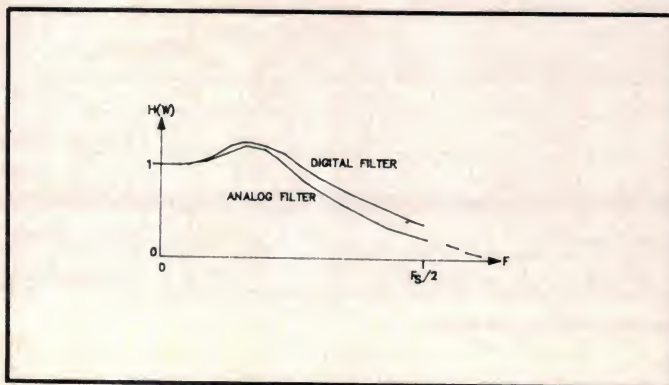

Fig.5: amplitude distortion caused by the impulse invariant transform.
- (1) The impulse invariant transform gives the digital filter an identical impulse response to the analog filter. The frequency response of the resulting digital filter has an amplitude distortion which is illustrated in Fig.5. This distortion can be reduced by using sampling rates which are high compared to the cut-off frequency. This transform is not suitable for high-pass filters.
- (2) The matched z transform maps the s-plane poles and zeros into the z-plane (see "Z Transforms, Transfer Functions, Poles and Zeros"). This transform has similar limitations to the impulse invariant transform.